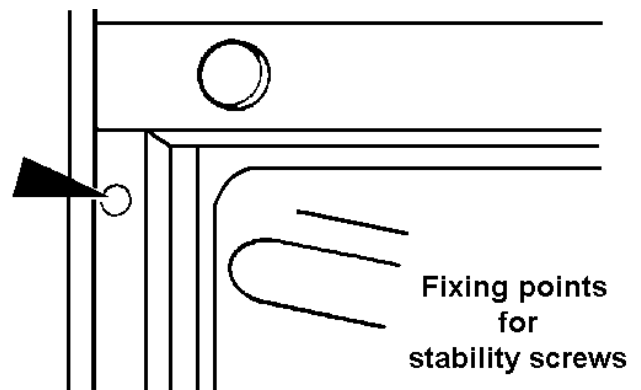

Fig.9
- When the appliance is fully housed screw the stability screws (supplied with the appliance) into the side of the cabinet taking care not to distort the side trims (See Fig. 9). It is advisable to turn each screw alternately to avoid damaging the trims.